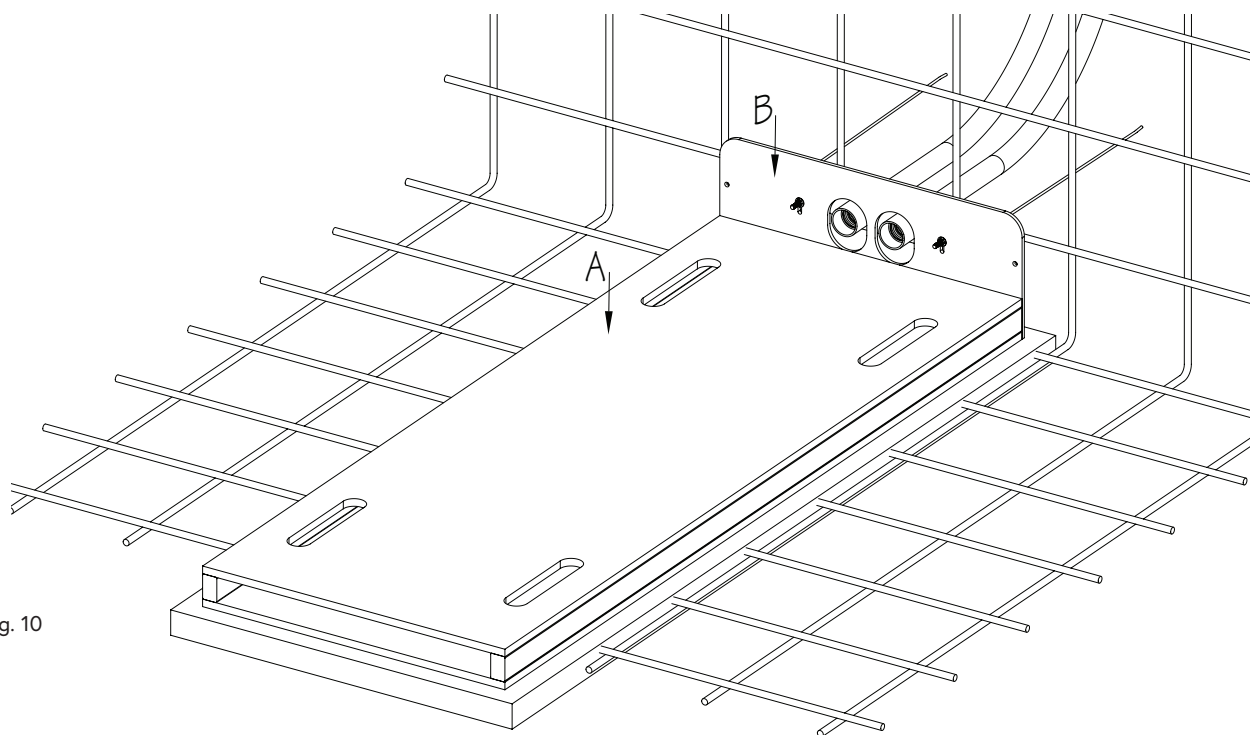

Fig. 10
4.4 Position the mold (A) onto the finished floor and up against the Mounting Template (B). The template can be attached to the mold if desired (Fig. 10).